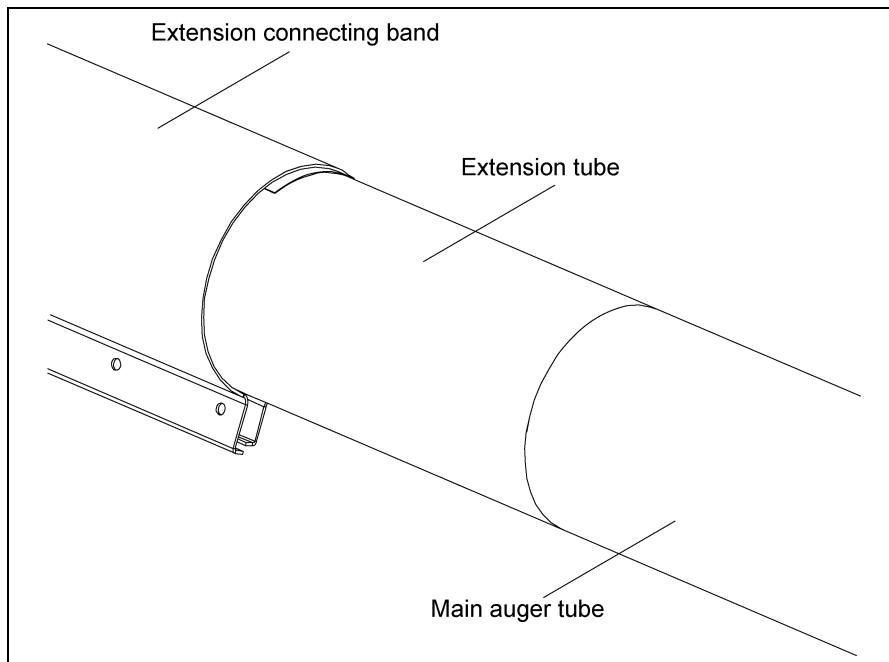

Figure 4N
- Slide the extension tube over the extension flight, making sure the tube is pressed securely against the main auger tube. (See Figure 4N.)